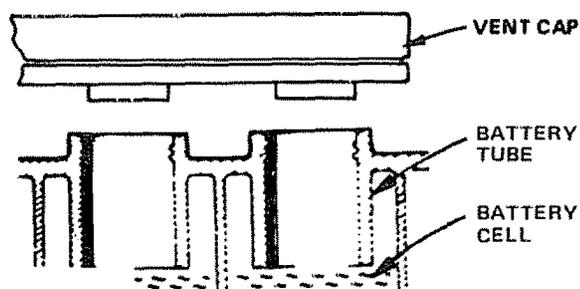

FIGURE 2
- b. Fill Battery with electrolyte to bottoms of tubes in cells (Fig. 2). NOTE: DO NOT OVERFILL. (OVERFILLING CAN RESULT IN DAMAGE TO TRACTOR).